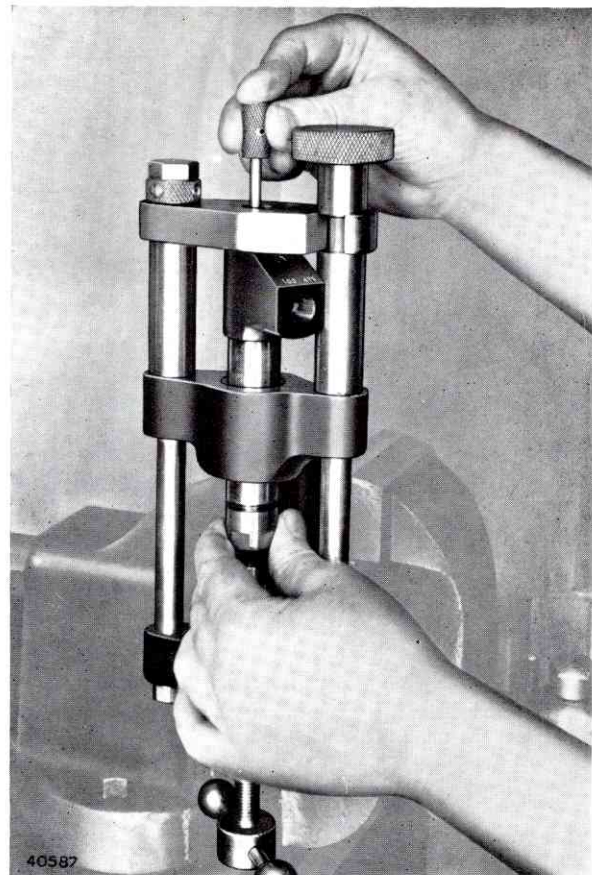

FIG. 53. BOUNCING THE NEEDLE VALVE ON ITS SEAT
5. Tighten the lock-nut slowly and carefully with the fingers, at the same time using the 3BA rod to bounce the needle valve rapidly on the nozzle seat (Fig. 53).